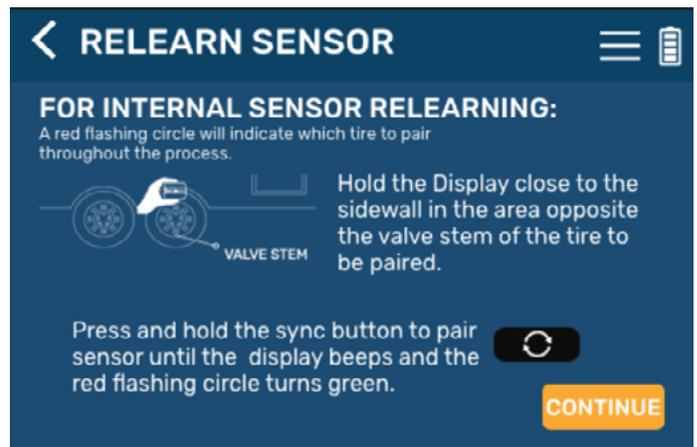

Fig.23
5. Hold the LCD display close to the sidewall in the area opposite the valve stem of the tire to be paired (Fig.23).